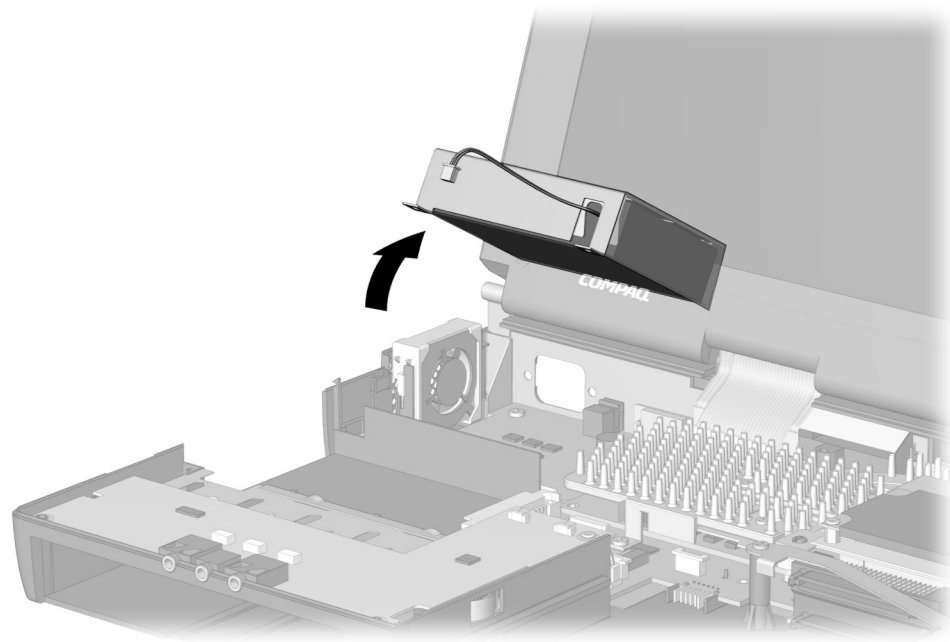

Figure 5-37. *Removing the Power Supply*
12. Lift up on the front of the power supply and swing it up and away until it clears the computer (Figure 5-37).